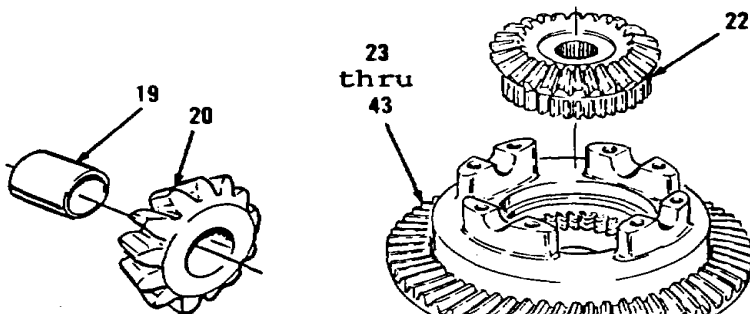

Figure 14-126.
9. Using drive plate and handle, remove four bearings (19) from pinions (20, Figure 14-126).